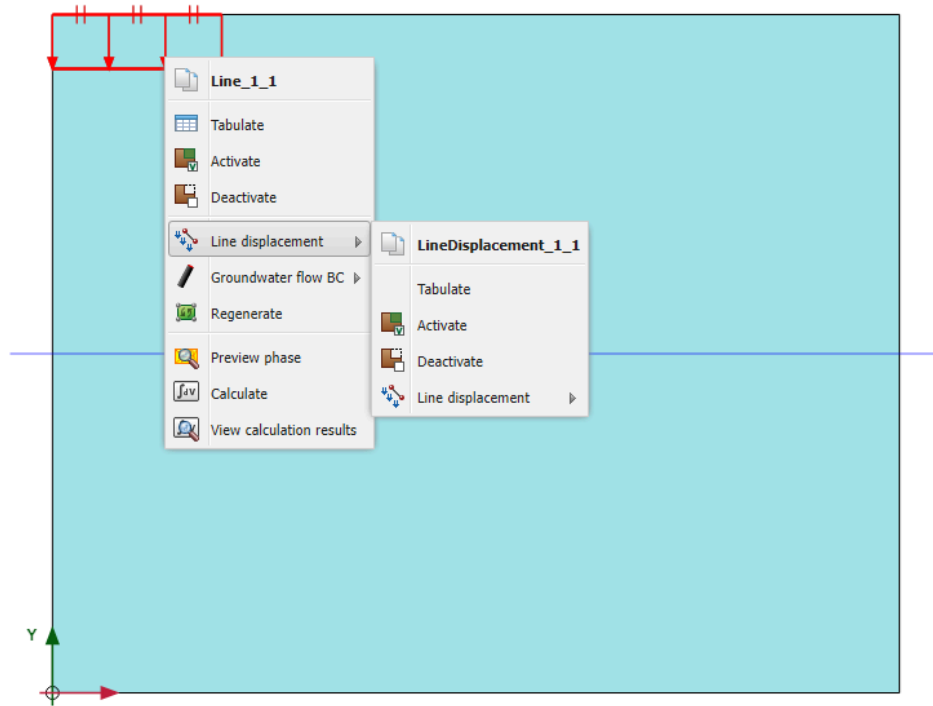

Figure 1-17: Activation of the prescribed displacement in the Staged construction mode
- 5 In the drawing area right-click the prescribed displacement and select the **Activate** option in the appearing menu as shown in Figure 1-17 \(p. 27\).